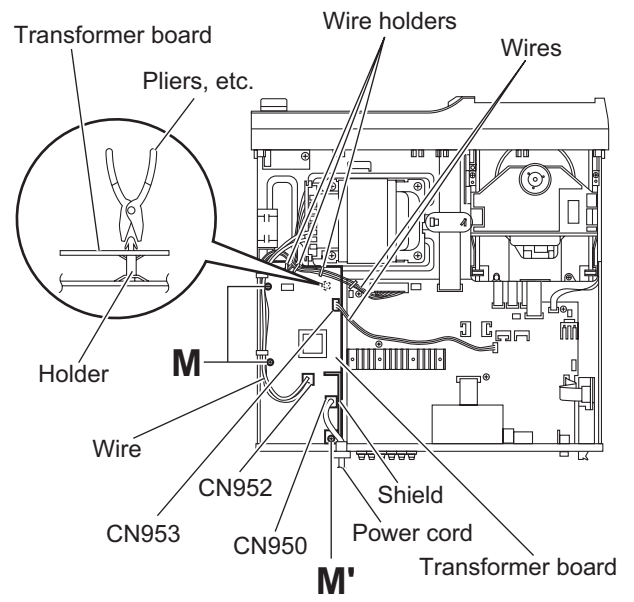

Fig.15
3.1.10 Removing the transformer board (See Fig.15)